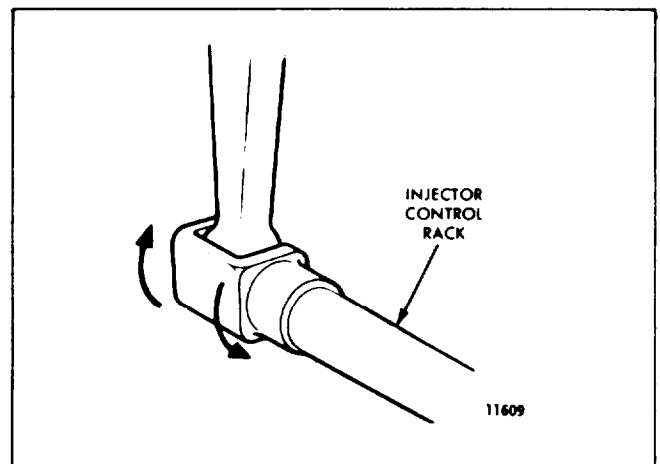
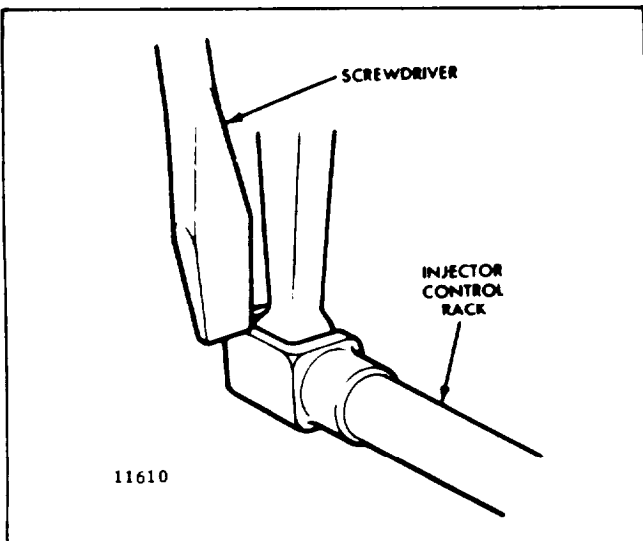

Fig. 4 - Checking Rotating Movement of Injector Control Rack
Fig. 5 - Checking Injector Control Rack "Spring"
7. To be sure of the proper rack adjustment, hold the speed control lever in the maximum speed position and press down on the injector rack with a screw driver or finger tip and note "rotating" movement of the injector control rack (Fig. 4) when the speed control lever is in the maximum speed position. Hold the speed control lever in the maximum speed position and, using a screw driver, press downward on the injector control rack. The rack should tilt downward (Fig. 5) and when the pressure of the screw driver is released, the control rack should "spring" back upward.